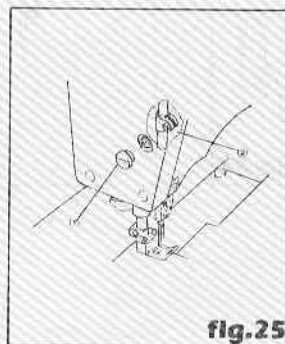

fig.25
- * Remove the cap screw (1), loosen the screw (2), adjust the needle bar up or down to desired height, then fix it. (fig 25)